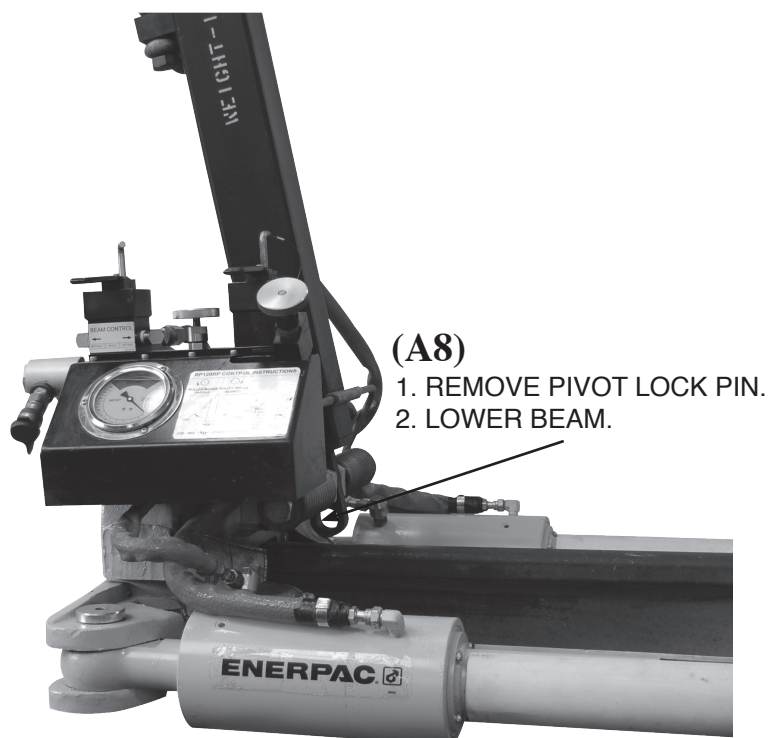

**FIG.1**
8. SHIFT THE PULL CONTROL VALVE {(A3) IN FIG. 1} TO THE PULL POSITION AND BEGIN TURNING THE SPEED CONTROL VALVE {(A2) IN FIG. 1} CLOCKWISE UNTIL THE PULLER BEGINS CLOSING THE GAP, MONITOR THE TONNAGE GAUGE FOR PULL FORCE.
**NOTE:** CONTINUING TO TURN THE SPEED CONTROL {(A2) IN FIG. 1} CLOCKWISE INCREASES THE SPEED AND FORCE OF THE PULL. TURN THE SPEED CONTROL VALVE {(A2) IN FIG. 1} COUNTER CLOCKWISE TO SLOW DOWN THE PULL FOR MEASURING AND CONTROLLING THE GAP IN THE FINAL STAGES OF PULL.
9. AS SOON AS THE GAP IS MADE, SHIFT THE PULL CONTROL VALVE {(A3) IN FIG. 1} BACK TO THE CENTER POSITION, AND TURN THE SPEED CONTROL VALVE {(A2) IN FIG. 1} COUNTER CLOCKWISE.